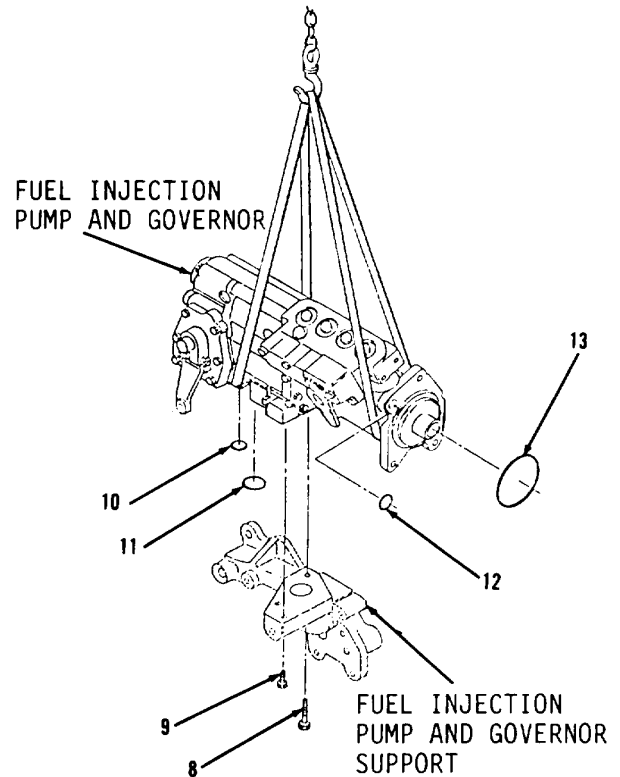

Figure 3-85.
9. Attach hoist and sling to fuel injection pump and governor (Figure 3-85).